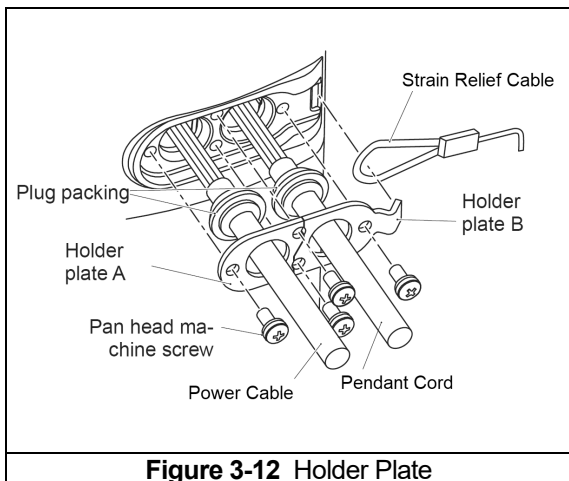

Figure 3-12 Holder Plate
- Remove the 4 machine screws that are used for Holder Plate A and Holder Plate B, and shift the holder plates away from the body onto the cables (see **Figure 3-12**).
- Insert the Power Cable (with 4P plug connector and Holder Plate A) into the top hole and the Pendant Cord (with 4P socket connector and Holder Plate B) into the bottom hole. Secure the Holder Plate A/B with the 4 Pan Head Machine Screws (see **Figure 3-12**).